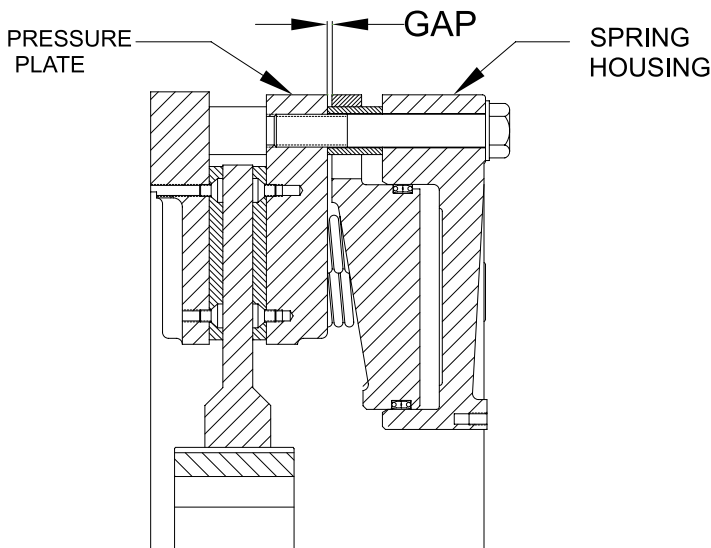

Figure 5
- 4.2.1 To determine when adjustment is required, make sure the brake is engaged then measure the gap between the spring housing (16) and the pressure plate (14) as shown in Figure 5. Measure the 'Y' gap between the pressure plate (14) and the reaction plate (31), the 'Y' gap between the reaction plate (31) and the mounting flange (2) and the 'Y' gap between the reaction plates (31) as shown in Figure 5, 6, 7, 8 and 9. If the measured gaps meet or be outside (larger or smaller) the limits shown on Table 8 AND none of the friction discs are worn to the bottom of the wear groove or the step on size 50 brakes, adjust the brake. It is also recommended to check the DBBS components for wear as shown in Table 7. If any wear limit has been reached or exceeded, that component must be repaired or replaced.